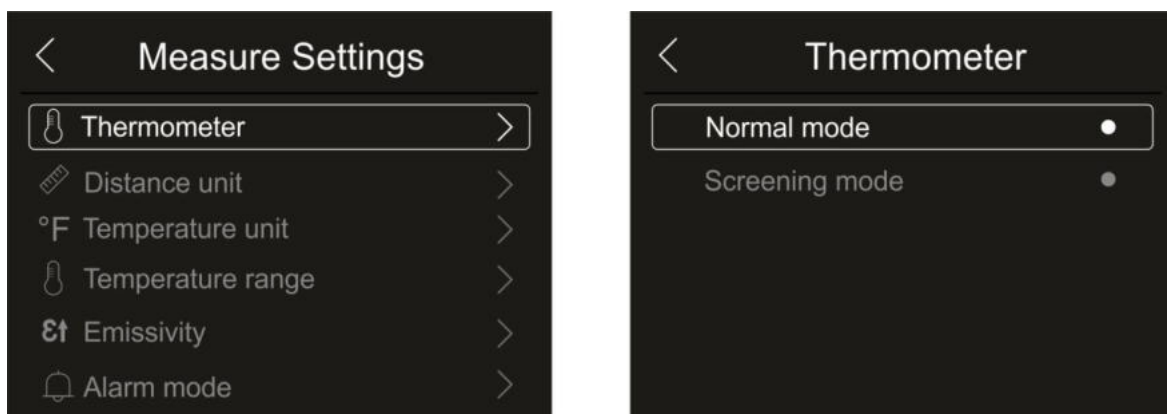

Fig. 21: Menu Thermometer
1. Touch the item “Thermometer”. The screen in Fig. 21 – right side appears on the display: